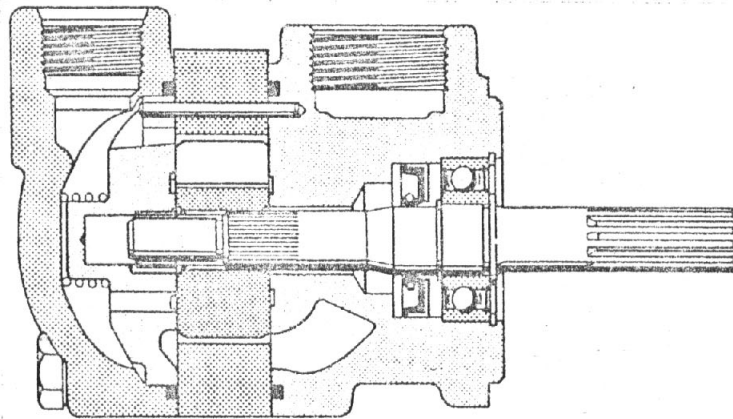

FIGURE 1
(1) Pumps in this series are used to develop hydraulic fluid flow for the operation of Mobile equipment. The positive displacement pumping cartridges are the rotary vane type with shaft side loads hydraulically balanced. The flow rate depends on the pump size and the speed at which it is driven.
(2) All units are designed so that the direction of rotation, pumping capacity and port position can be readily changed to suit particular applications.
b. Assembly and Construction--The V20 series pump illustrated in cutaway in Figure 1 is representative of all single pumps in this series. The unit consists principally of a proted body and cover, a drive shaft supported by two ball bearings, a pumping cartridge and a pressure plate. The components of the cartridge are an elliptical ring, a slotted rotor splined to the drive shaft and twelve vanes fitted to the rotor slots. As the rotor is driven by the driveshaft, the vanes generate fluid flow by carrying fluid around the elliptical ring coutour. Fluid enters the cartridge through the inlet port in the body and is discharged through the pressure plate to the outlet port in the cover.
(1) Table I lists the common difficulties experienced with vane pumps and hydraulic systems. It also indicates the probable causes and remedies for each of the troubles listed.
(2) It should always be remembered that many apparent pump failures are actually the failures of other parts of the systems. The cause of improper operation is best diagnosed with adequate testing equipment and a thorough understanding of the complete hydraulic system.
a. General--Plug all removed units and cap all lines to prevent the entry of dirt into the system. During disassembly pay particular attention to identification of the parts, especially the cartridges, for correct assembly. Pump bearings are pressed in the bodies or on the shafts and should not be removed unless defective. Figure 1 can be referred to for the correct assembled relationship of the parts.